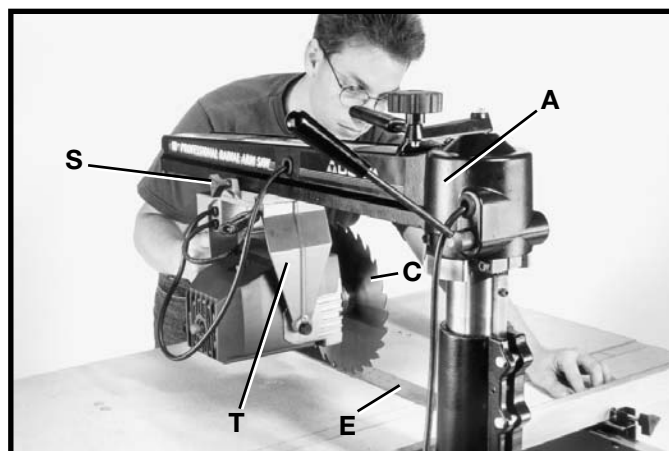
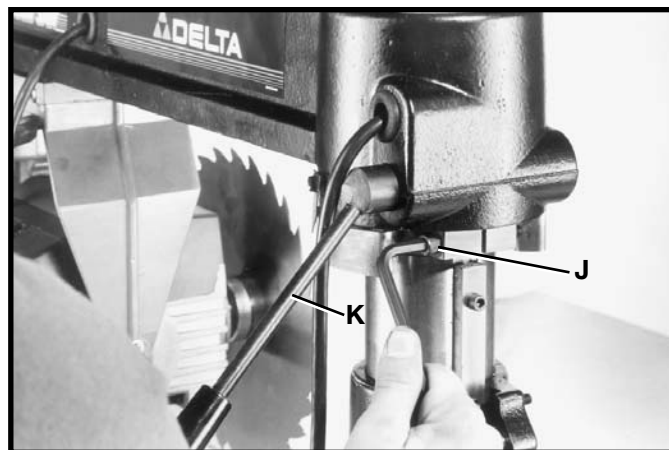

Fig. 33
Fig. 34
5. Loosen cutting-head clamp knob (S) Fig. 33, and slide cutting-head (T) the entire length of track arm (A) as shown to determine if blade (C) travels parallel to the square (E).
6. If an adjustment is necessary, loosen index ring locking screw (J) Fig. 34, and track arm clamp handle (K).
7. Rotate track arm (A) Fig. 33, until blade (C) travels parallel to square (E). Then tighten track arm clamp handle (K) Fig. 34.